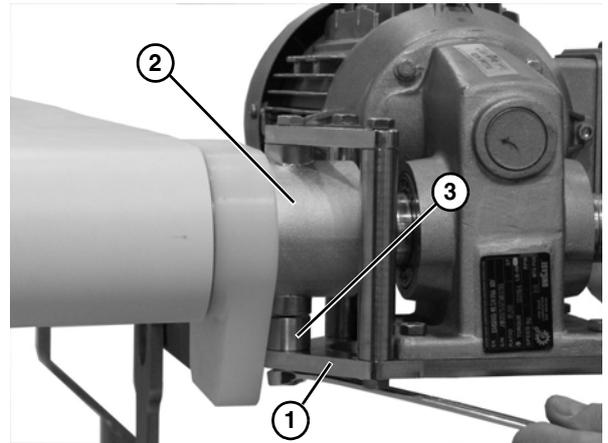

Figure 6
4. Attach the bottom gearhead mounting bar (Figure 6, item 1) to the motor mounting bracket (Figure 6, item 2) with spacer (Figure 6, item 3).